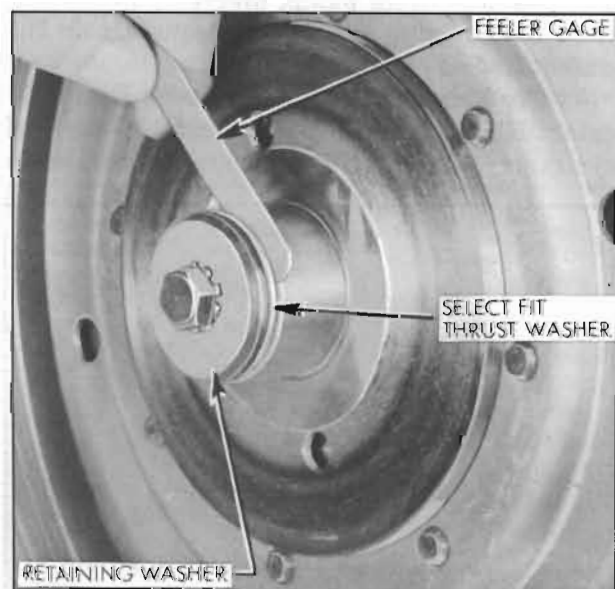

Figure 5-113—Checking Turbine Clearance
15. Check clearance between selective thrust washer and first turbine hub, using feeler gauges. Clearance should be between .002" and .009". See Figure 5-113.